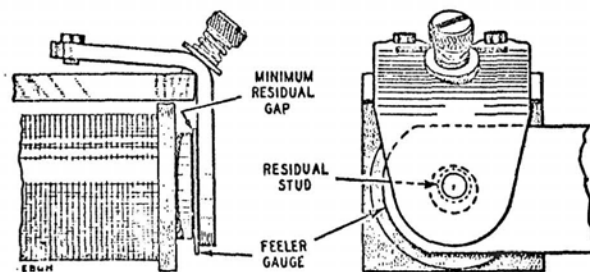

FIG. 4. MEASUREMENT OF RESIDUAL
7. **Measurement of residual gap.**—The minimum residual air-gap should be measured by inserting the holed end of the appropriate feeler-gauge between the armature and the core face (see Fig. 4), and allowing the residual stud to penetrate the hole. The armature should then be operated by hand. The degree of freedom of movement of the gauge over the core face will show whether the residual stud projects
made (see Fig. 4). This gap, i.e. the gap at the inner edge of the core face nearest to the yoke, will usually be much less than the distance from core face to residual stud and, therefore, a false measurement of the armature travel will be obtained if the gauge is inserted too far.